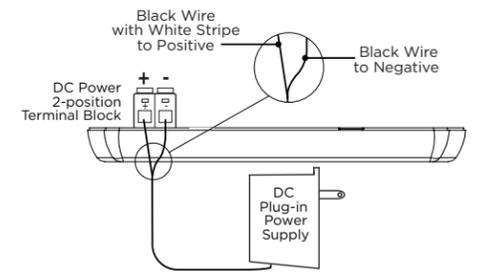

Figure 4: DMP 376L Wiring
1. Connect the Black wire with White stripe to the positive terminal on the 1100R and the Black wire to the negative terminal. See Figure 4.